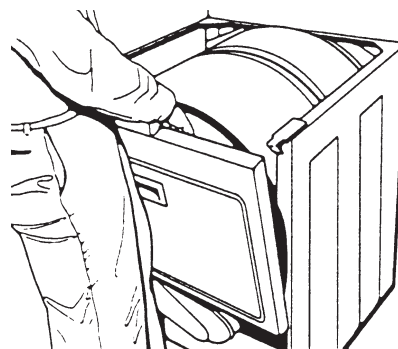

Fig. 4-36
8. Lift up and remove front panel. (Fig. 4-36)